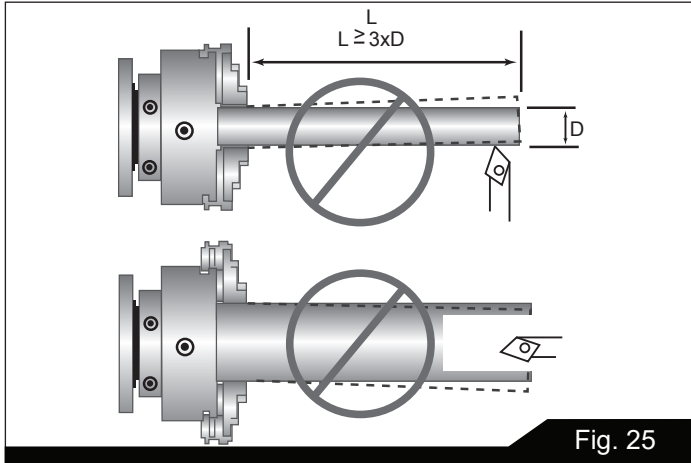

Fig. 25
- Avoid long workpiece extensions, as parts may bend or fly off (see Figure 25). Use rests or the tailstock for support.